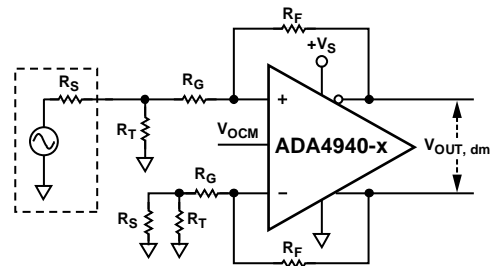

Figure 20. ADA4940-x Configured for Unbalanced (Single-Ended) Input
For an unbalanced, single-ended input signal (see Figure 20), the input impedance is
**Table 9. Single-Ended Ground-Referenced Input, DC-Coupled, Rs = 50 Ω, RL = 1 kΩ; See Figure 20**